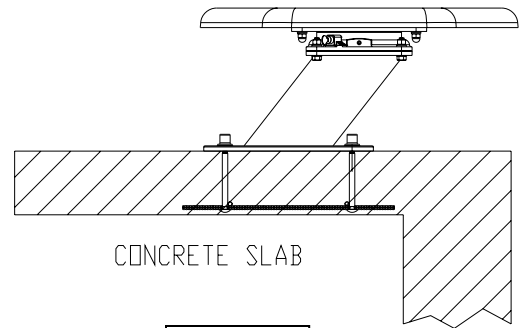

FIG. 3
1. READ CAREFULLY the following, and pages A through E, which have been extracted from ANSI/NSPI-5 2003, and pay particular attention to Figure 3 and Table 1 set forth therein.
2. The 606/608 four-bolt jig should be set in accordance with the INSTALLATION CHART above and Figure 1, with the two "RED" capped bolts closest to the pool. This will give the desired minimum overhang. Board must be placed at deep end of pool on centerline. Figure 3 shows the board in jump platform position, with the long side of the board parallel to the pool wall. When the board is in jump platform position, the edge of the board should line up with the edge of the pool or overhang slightly.